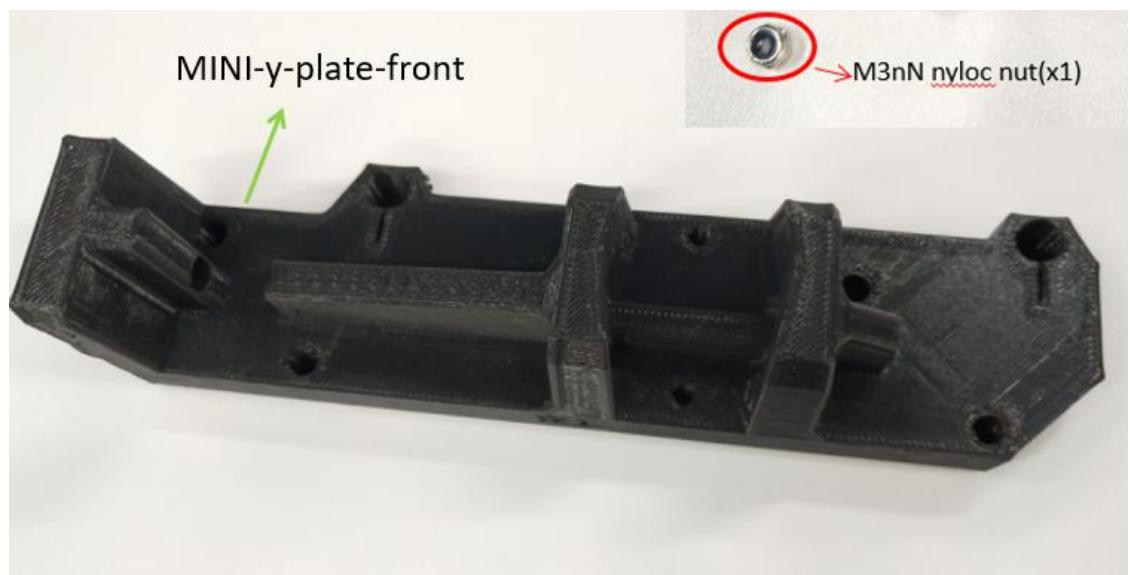

Figure 1.3.1
**Step 1-3-1:** As shown in Figure 1.3.1, prepare the materials and check whether the quantity of materials is correct, and prepare for the next installation.